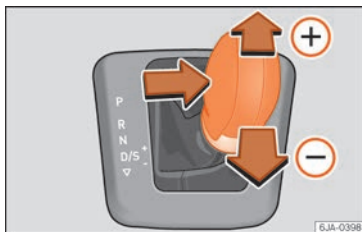

Fig. 218 Selector lever: Tiptronic.
- Push the selector lever gently forwards **+** » **Fig. 218.**
- Push the selector lever gently backwards **-** » **Fig. 218.**